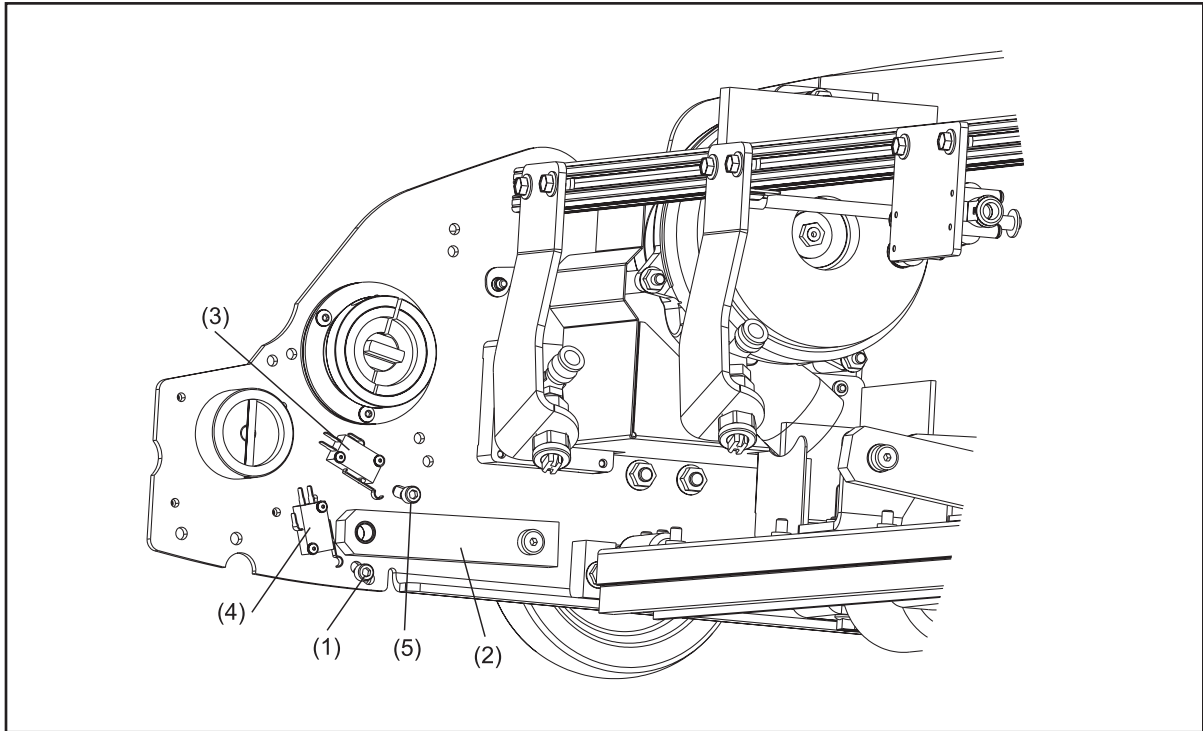

Figure 6-11. Adjusting Up Stop
4. The stop bolt should be located so that when the duster contact roller pivot arm is against the up stop bolt it allows the up switch to be completely engaged, but does not push the arm of the up switch past the switch body. Refer to Figure 6-11.